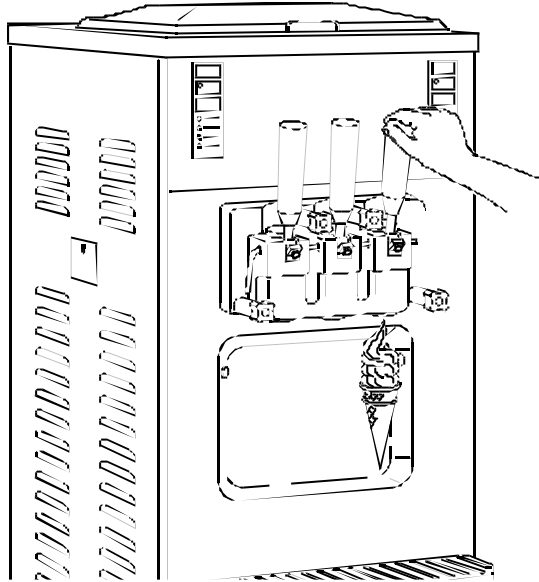

Figure 5
B) Dispensing Handles – (Refer to Figure 5)